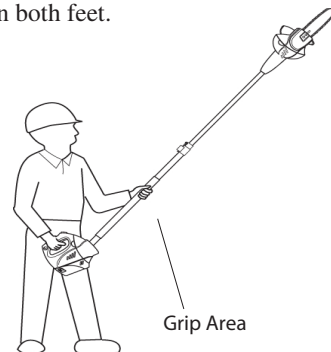

Figure 28 - Designated Grip Areas
2. Use both hands to grip polesaw. Use only designated grip areas when operating polesaw (see Figure 28). Use firm grip. Thumbs and fingers must wrap around polesaw handle and pole.